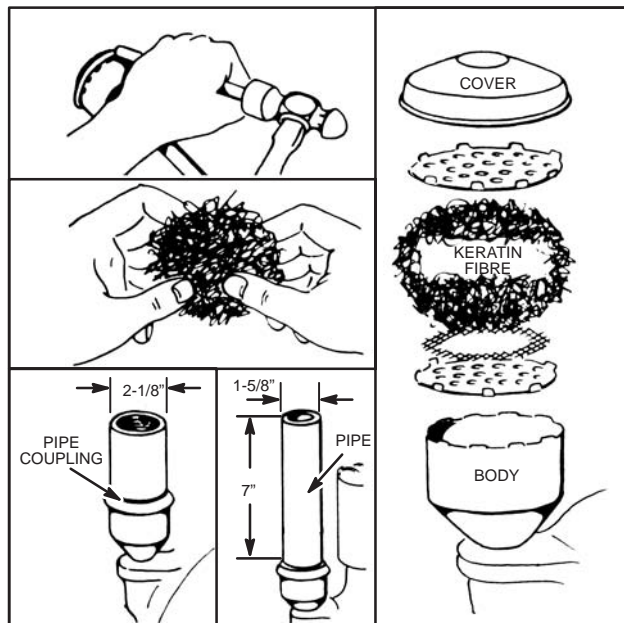
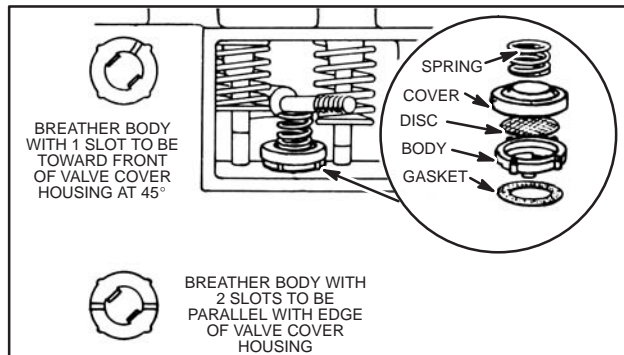

Fig. 172 – OUTSIDE BREATHERS
Fig. 174 – BREATHER VALVE
The purpose of the breather is to relieve crankcase pressure and it is important that they be clean to assure proper operation. Some breathers are located inside the valve chamber, Fig. 174. Others are either pressed or screwed into the crankcase, Fig 172.
with Keratin Fibre, Part #27115 (NLA). For breathers with 2-1/8" dia. body, replace moss with Keratin Fibre, Part #27116 (NLA). Pull Fibre apart enough to remove lumps and prevent it from packing too tightly. Reassemble fibre and retainers as shown in Fig. 172.
Remove and reassemble the parts in the sequence shown in Fig. 174. If the body has two grooves on the under side, the groove should be parallel to the face of the valve chamber. If one (1) groove, the groove should point toward the front of valve cover housing at an angle of 45°. If the body has no groove, it can be assembled either way. The spray shield should be assembled about 1/16" from the face of the valve chamber and as close to the bottom of the chamber as the hole in the shield will allow.